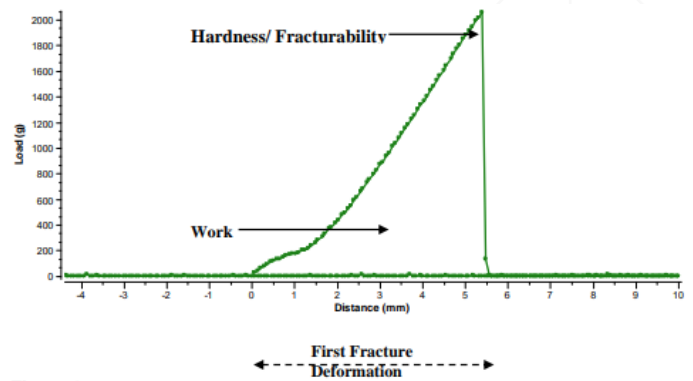

Figure 2
- Figure 2: Load vs. Distance graph provides additional measurements of work done (area under the curve) and first fracture deformation (distance to snapping point).
The load/distance graph (Figure 2) shows the work required to break the lasagna (energy needed to overcome internal bonds). The gradient indicates sample stiffness; a steeper gradient means a stiffer sample. The distance to the first fracture reflects sample flexibility.